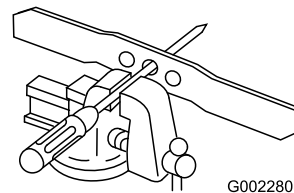

Figure 32
1. Check the balance of the blade by placing the center hole of the blade over a nail or screwdriver shank clamped horizontally in a vise (Figure 32).